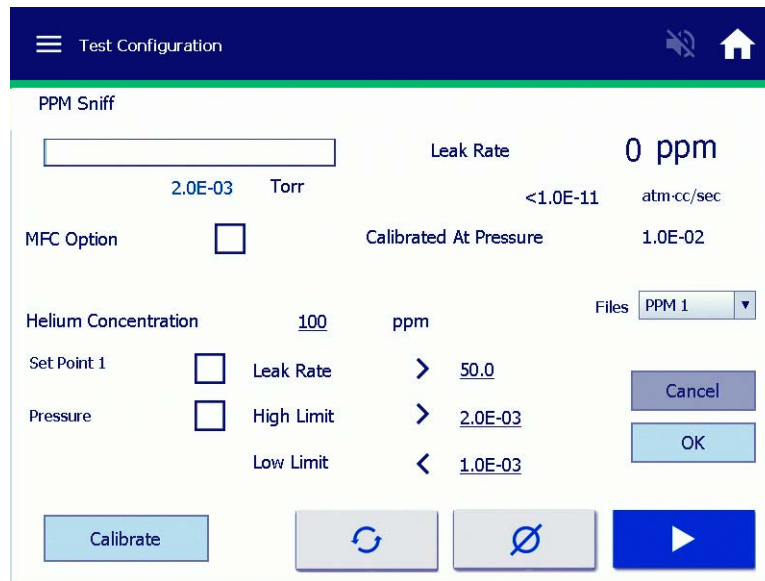
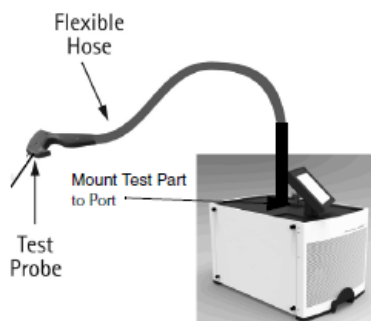

Figure 5-14 PPM Sniff Method
Figure 5-15 Sniffing Setup
2. Select **PPM Sniff Method**, press **Set-Up** and Figure 5-14 appears.
3. Ensure that the leak detector must be in *Test* and setup for a sniffing application as shown in Figure 5-15. The test port pressure appears in the top left hand corner of the setup screen (Figure 5-14).
5. Press the **Calibrate** button (Figure 5-14 on page 92) and follow the step-by-step instructions. The leak detector is now ready to measure the concentration of Helium in PPM.